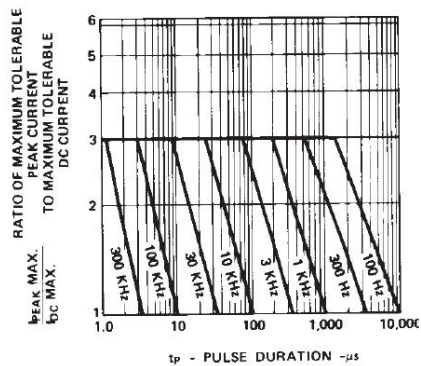

Figure 5. Maximum tolerable peak current vs. pulse duration. ( $I_{DC}$  MAX as per MAX ratings).
1. See Figure 5 (HER/Orange), 10 (Yellow), or 15 (Green/Emerald Green) to establish pulsed operating conditions.